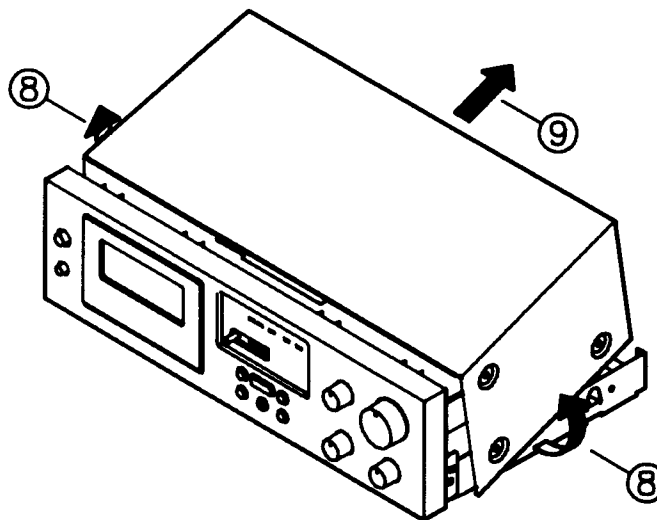

Fig. 2.
2. Pull both sides of TOP COVER outward and turn about 35° (shown as arrow ⑧) then remove as arrow ⑨ shows. (See Fig. 2.)